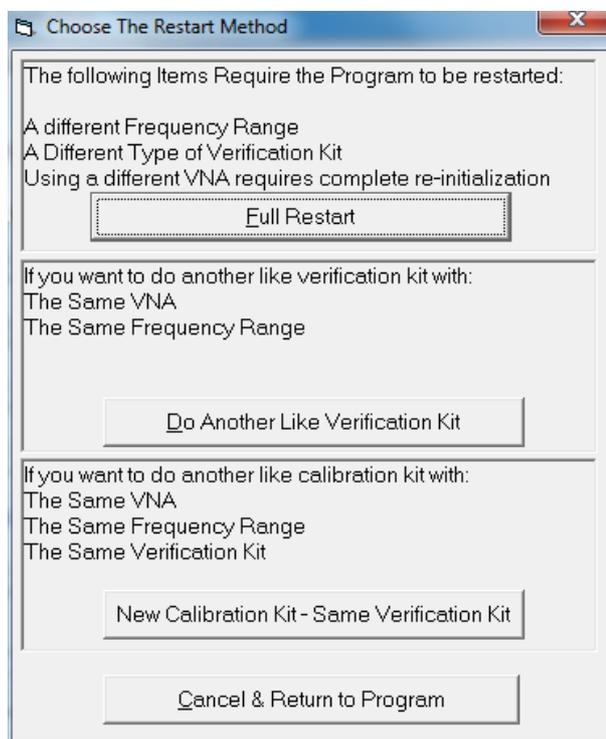

Figure 4-83. Choose The Restart Method Dialog
3. The Choose The Restart Method dialog box appears as shown in Figure 4-83.